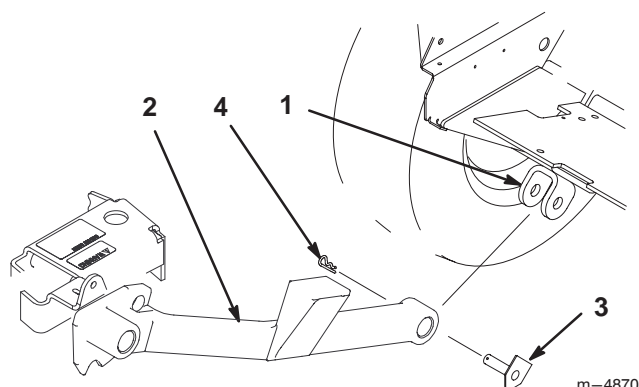

Figure 15
7. Lower carrier frame and remove hairpin cotters and pivot pin assemblies securing push arms to traction unit clevises (Fig. 15).